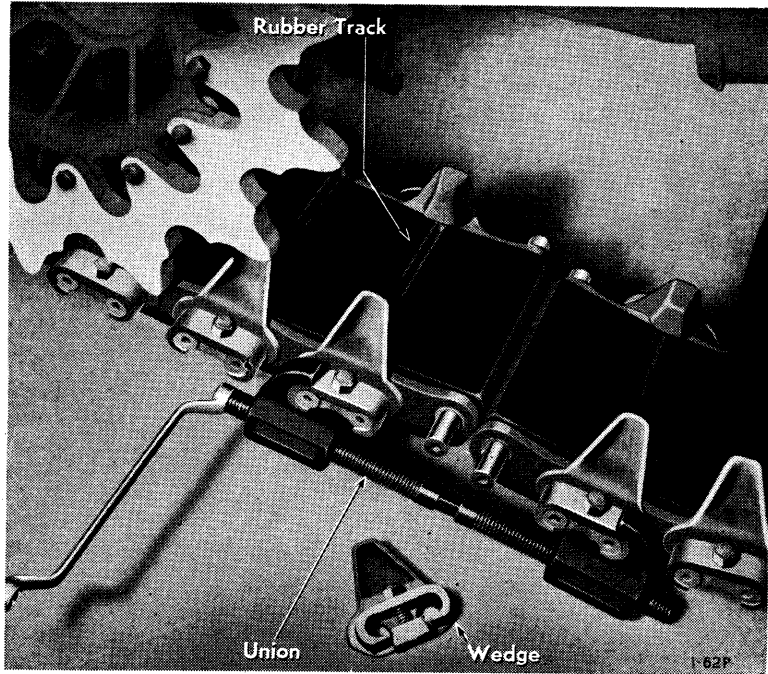

Fig. 45. Turnbuckle service tool in position. Track horn is shown in the foreground, complete with wedge, bolt and nut
2. When the track is adjusted, tighten the clamping nuts and lock nuts securing the tensioning wheel bracket to the hull with wrench No. 1-11009, see Fig. 45. Replace the locking plate and pin on the track adjusting screw.